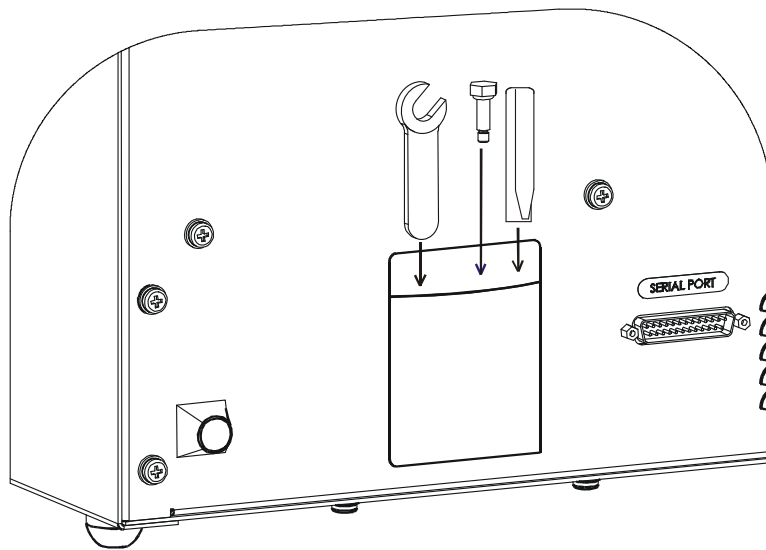

Figure 3: Storage pocket on the rear of the instrument (wrench, carrier shipping screw, and warning tag shown)
4. Locate the supplied plastic tool storage pocket. Place the screws and washers inside the bag. Use the supplied Velcro strips to attach the pocket to the back of the reader for storage. Do not block any air vents. See **Figure 3** on the next page.